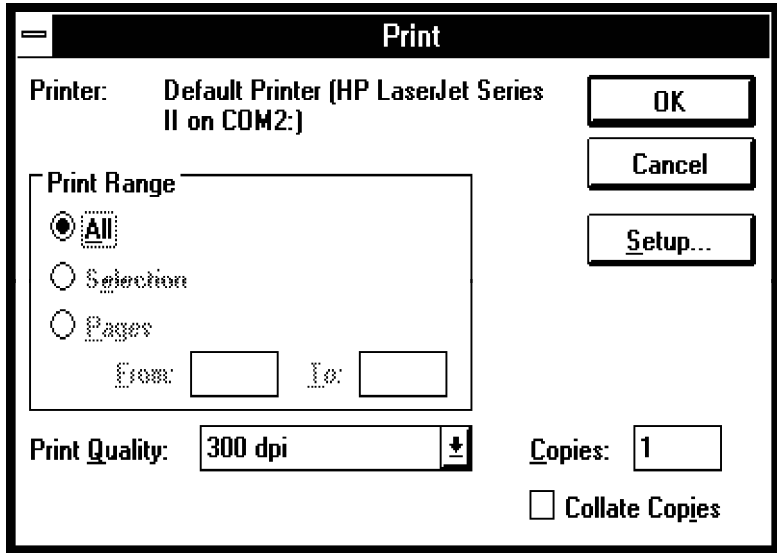

Figure 4-3—The Print dialog box
- From the **File** menu, select **Print Results**. The dialog box of Figure 4-3 appears. The options in this dialog box may vary depending on the installed printer.
- Press **ENTER** or choose the **PRINT** button. The dialog box of Figure 4-3 appears. The options in this dialog box may vary depending on the installed printer.